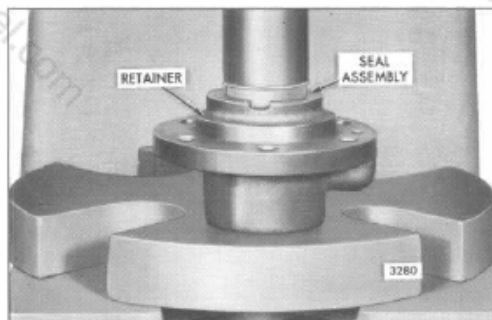

Fig. 17 – Installing Water Seal Assembly
6. To reduce possible coolant leakage, apply a light coat of non-hardening sealant to the outside diameter of a new water seal. Then, press the seal in place with a suitable sleeve, with an inside diameter large enough to fit around the seal and resting on the brass cartridge lip (Fig. 17).